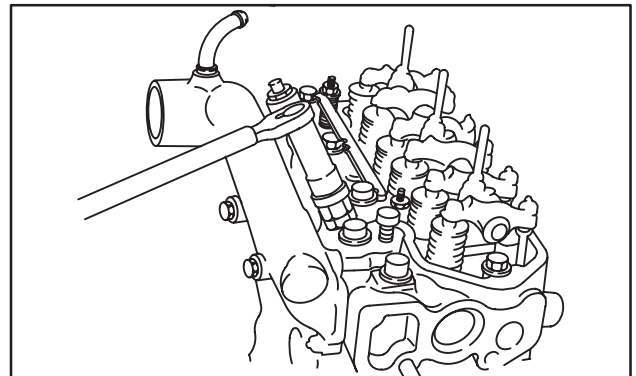

Fig. 37 – Install Glow Plugs And Injectors
- Install Injectors, fuel lines and glow plugs, Fig. 37.